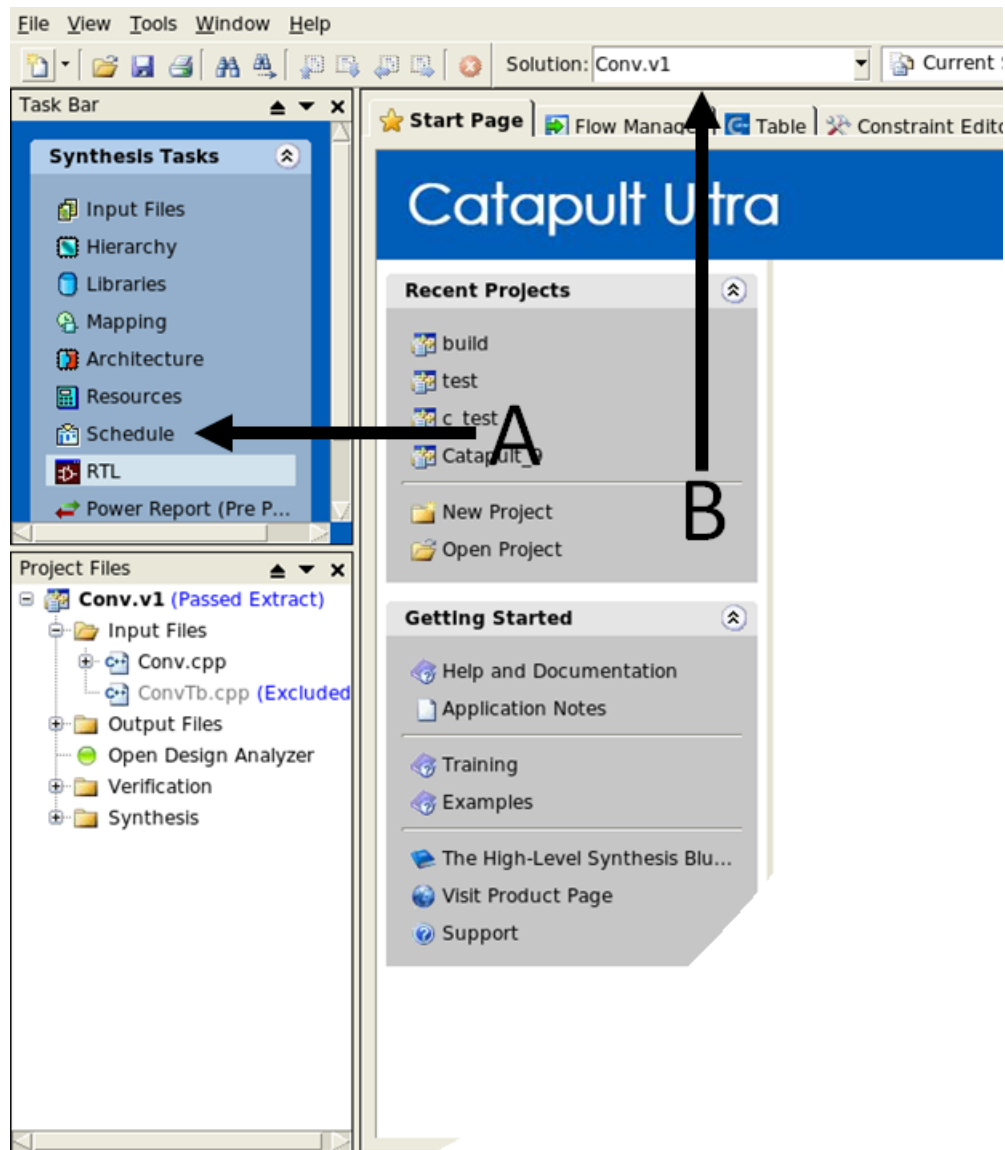

Figure 7: Click on (A) to switch to the Schedule step and click on the dropdown in (B) to switch between blocks.
- When optimizing your HLS design, it will be helpful to look at the schedule for each block. After compiling your design and opening Catapult, click on the Schedule tab to open up the schedule for a block. Select between the different blocks in your design in the dropdown as shown in Figure 7.